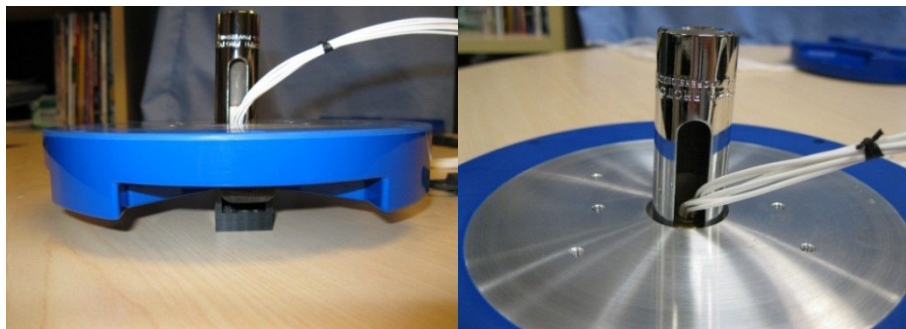

Figure 31. Lock Nut Removal Socket
11. Flip the End-Cap assembly over and insert the slotted socket onto the lock nut. Fit the cable wires into the socket's clearance slot (see Figure 31. Lock Nut Removal Socket).